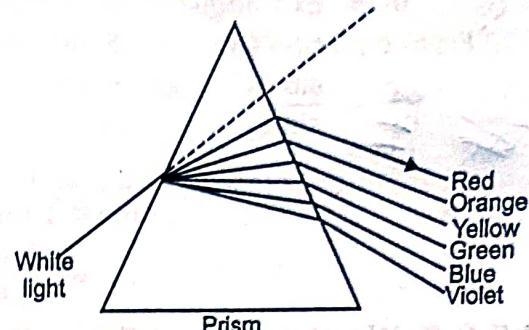

Fig. 2.4: Dispersion
- It is commonly recognised when sunlight is dispersed into a rainbow of colours by a prism shown in Fig. 2.4.